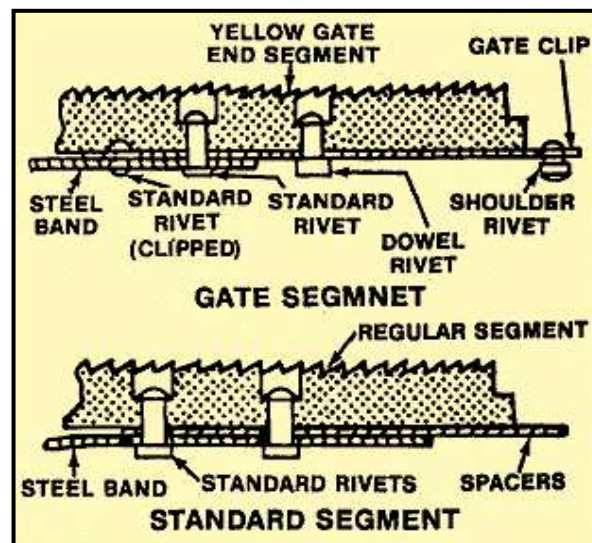

Figure 6-8. Construction and parts of a file band.
**File Bands:** The band sawing machine is adapted for filing by use of the band file attachment. A band file is fitted over the drive and idler wheels and in place of the bandsaw blade. The band is made up of several parts or segments which are riveted at one end (the leading end) to a spring steel band. The trailing end of each segment is free to lift during the time when the band bends over the drive and idler wheels of the band saw. When the band straightens out, the segments lock together. Figure 6-8 shows the construction of and terminology for file band parts.